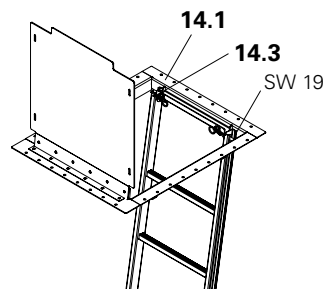

Fig. B1.51a
2. Fix ladder to hatch on both sides from the top, bolts M12 x 40 (14.3). (Fig. B1.51a)